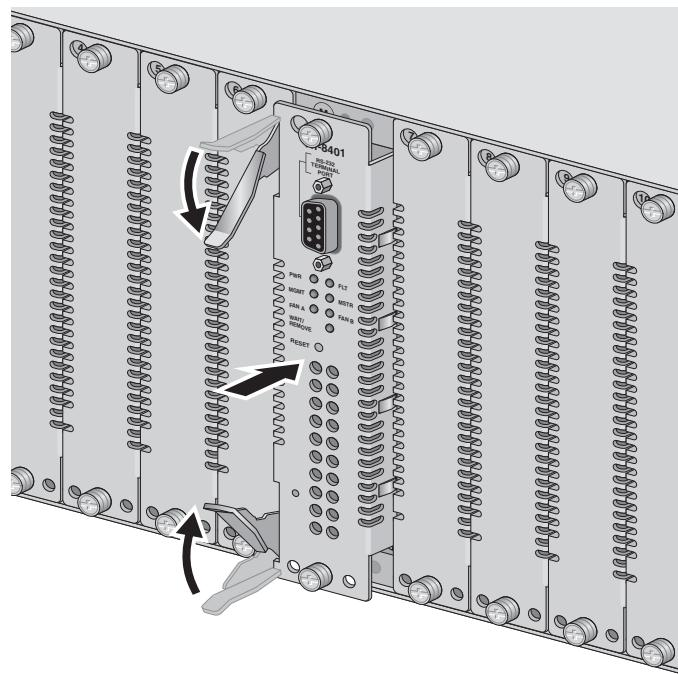

Figure 22 Moving the Locking Levers Toward the Chassis
5. Simultaneously push the locking levers on the management card into the locked position as shown in the diagram. When the levers are engaged, they are parallel to the front of the card which is flush with the front of the chassis. See Figure 22.